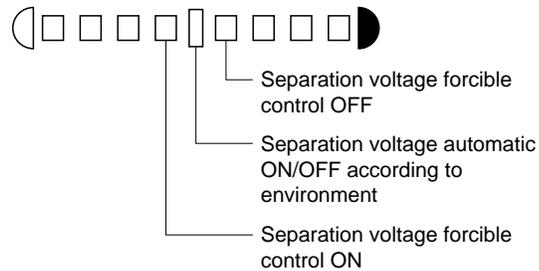

Figure 2-6 Density gauge LEDs for separation voltage control
2. Press the + or - keys to select the separation voltage control method. See Figure 2-6 below for the correspondence between the density gauge LEDs and the available separation voltage control methods.